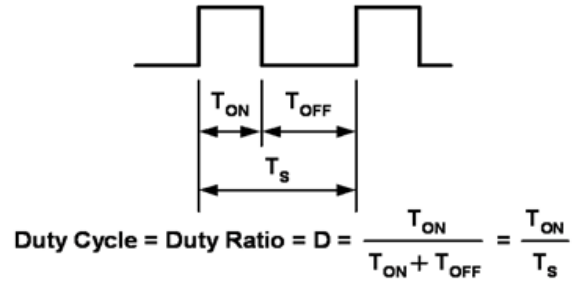

Figure 12.
generate audible sound. Dimming is achieved by turning the LEDs on and off for a portion of a single cycle. This on/off cycle is called the Duty cycle (D) and is expressed by the amount of time the LEDs are on ( $T_{ON}$ ) divided by the total time of an on/off cycle ( $T_s$ ) (Figure 12).